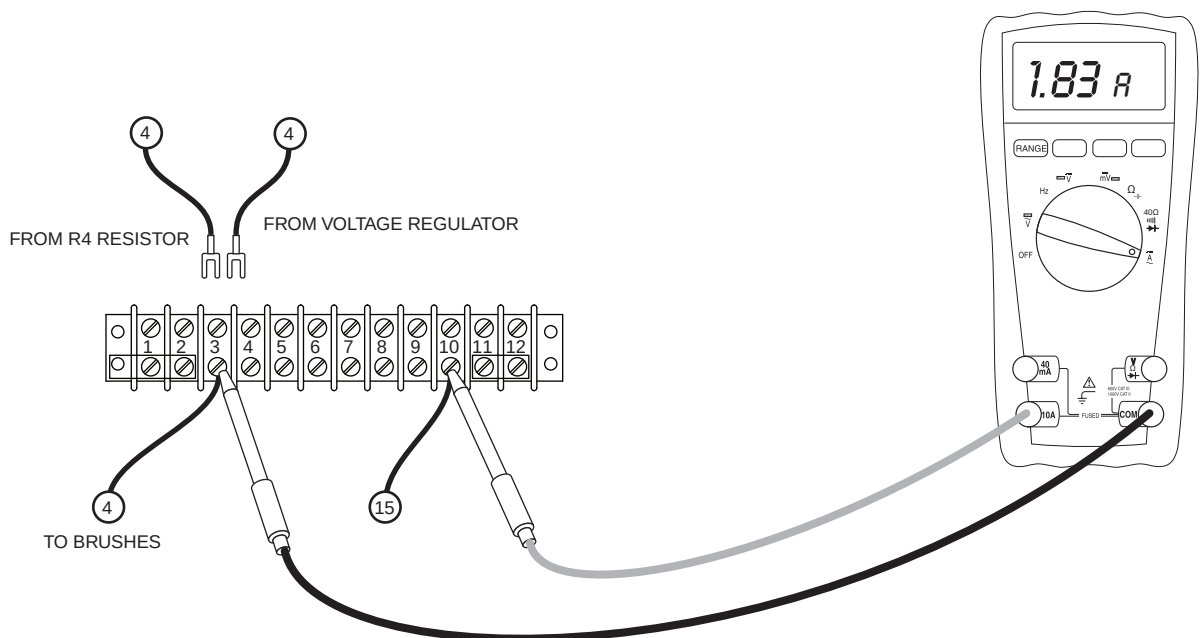

Figure 4. Rotor Amp Draw
11. Connect one meter lead to Terminal 10 (Wire 15) of TB1 and the other lead to Terminal 3 of TB1 (Wire 4) (see Figure 4).